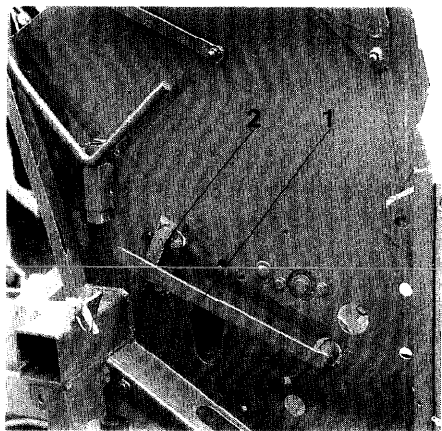

Fig. 41
- 1) Bring bottom flap lever (Fig. 41/1) at the setting plate (Fig. 41/2) into position "1".